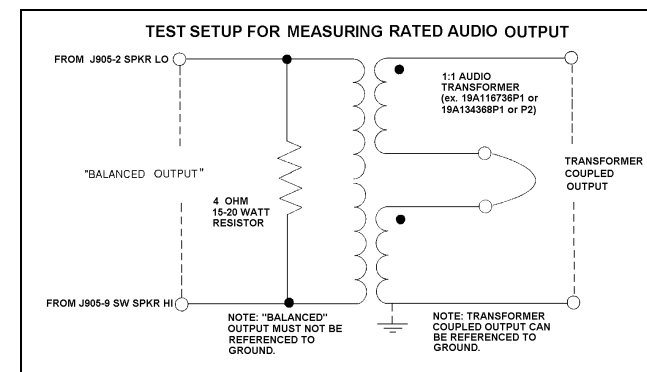

Figure 1 - Audio Output Test Setup
2. Monitor option connector J905-2,9 and adjust volume for 10 watts output (6.3 Vrms into 4 ohms). Distortion should be less than 5%. **NOTE: The 10-watt audio PA has "balanced outputs" and must be tested with the test setup shown in Figure 1.**